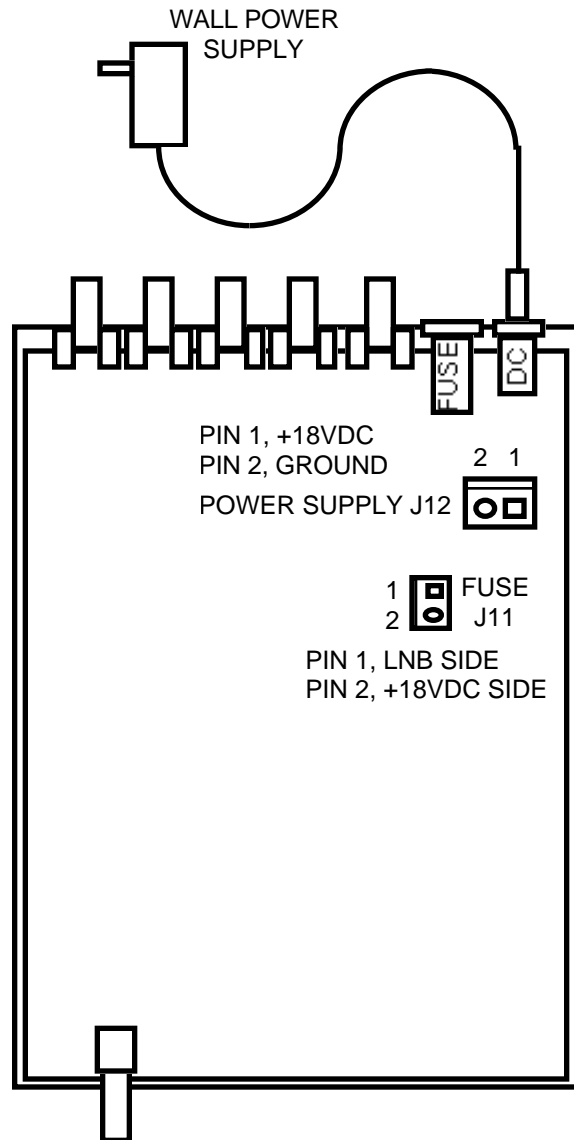

FIGURE 2.1 284-15 MECHANICAL ASSEMBLY
2.1 Mechanical - The 284-15 consists of one RF printed circuit board (PCB) housed in a 4.7"W x 1.75"H x 6.5"D bench top chassis. A 115VAC, 60Hz wall power supply provides +18VDC power for the internal and external amplifiers and LEDs. RF connectors are type F, female. The 284-15 can also be secured to a rack using the four holes on the optional 1 RU chassis front panel. Figure 2.1 shows how the 284-15 is assembled. J11 connects DC Power to the fuses as shown and J12 connects the DC voltage from the power supply to the PCB as shown.